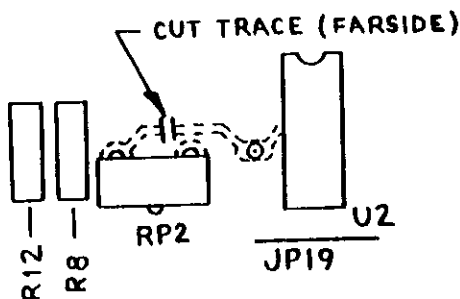

Figure 1A
- On foil side of each board, cut trace between RP2 and U2 pin 3. (See Figure 1A).